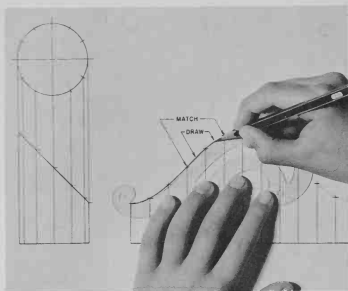

Fig. 1-50. Using the French curve to draw an irregular curve.
3. Match this curve with the French curve. Try to cover three or more points at each setting, Fig. 1-50.
4. Draw only part of the curve at each setting. Stop before reaching the point of separation, Fig. 1-50.
5. Make each new setting of the curve flow out of the previous setting, Fig. 1-50.